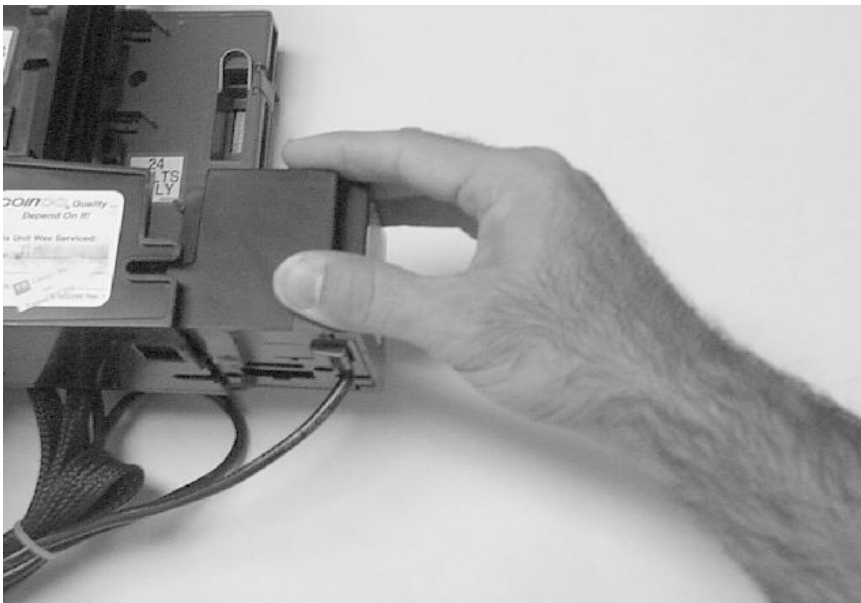

Figure 22. Removing Lower Housing
36. Slide the inner housing out of the back of the validator, revealing the belts, pulleys and sensors. (See Figure 22)